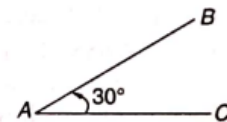

Figure 2
- Design joint A of a tubular roof truss and the member meeting at the joint A, the line diagram of which is shown in Figure 2 [12M]